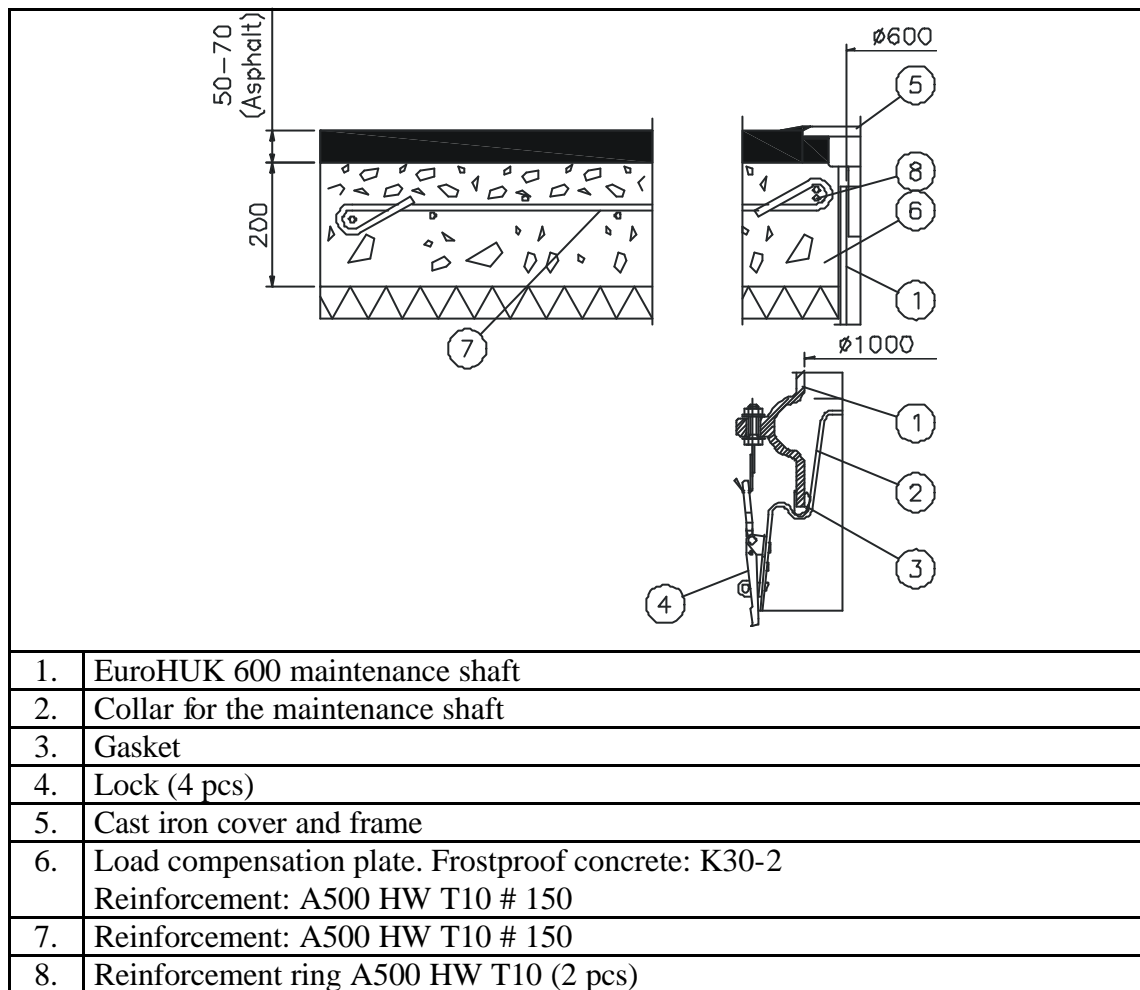

Figure 3. Construction of the traffic load compensation plate and the locking of the maintenance shaft EuroHUK onto the separator.
The tanks should be anchored in order for the buoyant force of the water in the ground not to move the tank. A reinforced concrete slab is recommended to be used as an anchor (figure 3).
7. Install rubber gaskets onto the bottom edge of the maintenance shaft(s). Install the EuroHUK maintenance shafts in a vertical position into the installation frame of the separator. Lock the retaining latches (see figure 3).